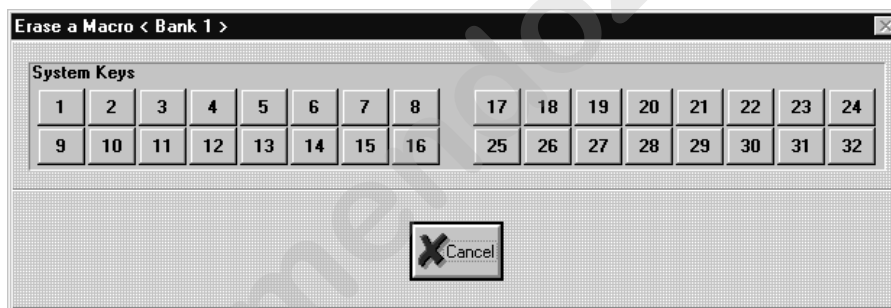

Figure 10.5. Erase a Macro
2. Press the <ERASE> key in the CONTROL group. This brings up the **Erase a Macro** dialogue box. Refer to Figure 10.5.